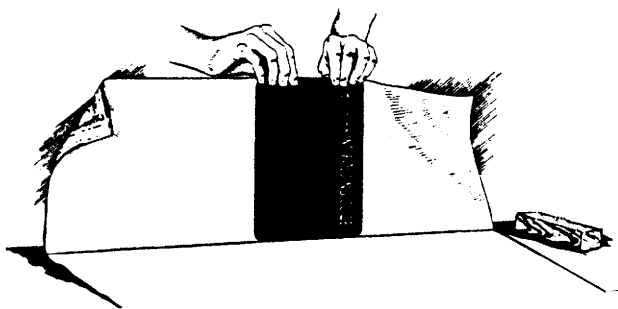

Figure 16-5.—Making first lengthwise fold in a large print.
1. First, fold the print into 10 7/8-in. lengthwise accordion-pleat folds. Lay the print face-down, and start by turning the edge containing the drawing number, using the folding guide, as shown in figure 16-5. Use a small block of wood, like the one shown in the figure, to compress the crease.